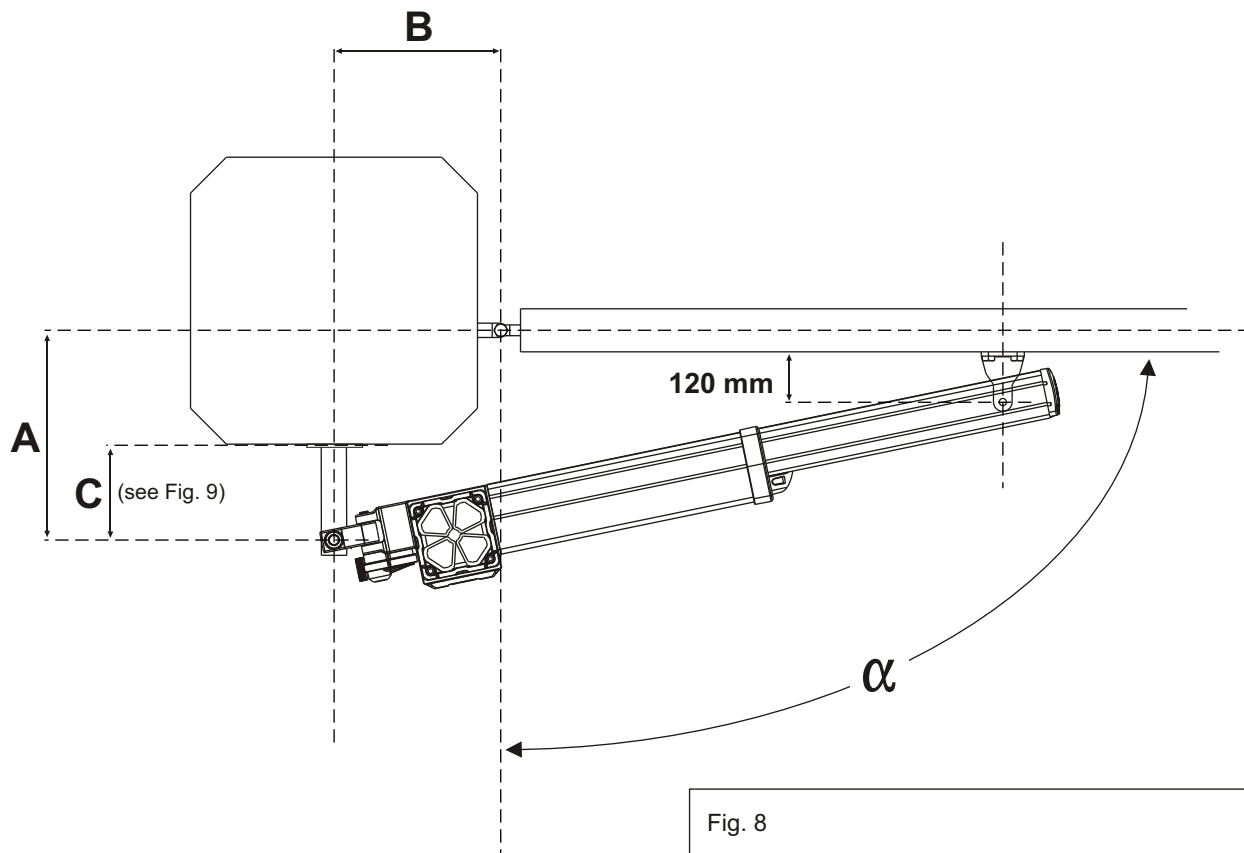

Fig. 7
2.2. Weld the back bracket to the plate (Fig 6) following the dimensions shown in Fig 7 and 8. If it is necessary, cut the bracket without going over the minimum limit of 60 mm (Fig 9).